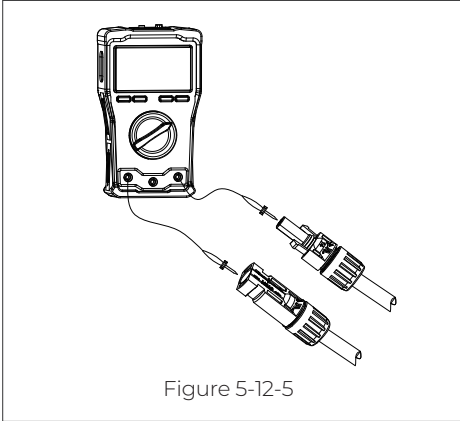

Figure 5-12-5
**Step 5:** Use a multimeter to confirm the positive and negative poles. See Figure 5-12-5. Confirm that the voltage is within 150V-500V.